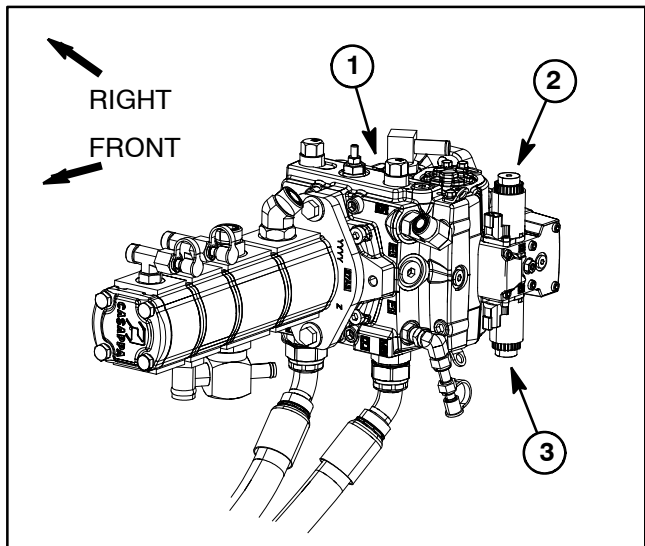

Figure 72
The piston (traction) pump uses an electronic control assembly for swash plate rotation. Electrical outputs from the machine TEC controller are provided to two (2) solenoid coils for pump control. The piston pump control assembly is attached to the left side of the piston pump (Fig. 72).
2. Locate piston pump solenoid coil to be tested (Fig. 72). Disconnect wire harness connector from solenoid coil.